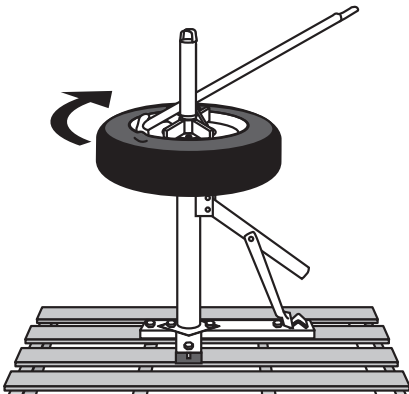

Figure 16
7. Push Bar down so that hook end wedges bead under rim. See Figure 16, below.